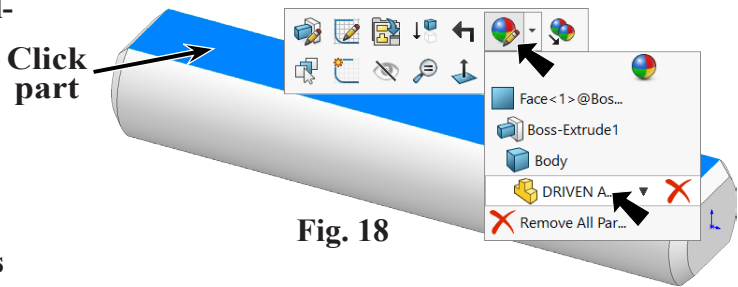

Fig. 18
Step 1. Click part, click **Appearance Call-out**  on the context toolbar and click **DRIVEN AXLE** , Fig. 18.